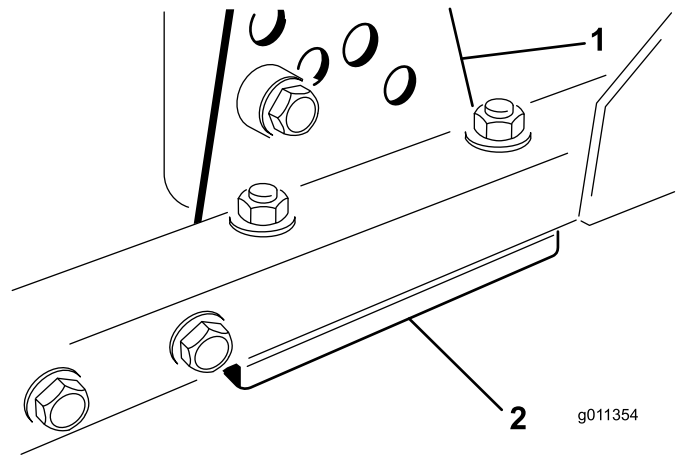

Figure 68
1. Remove the height-of-cut bracket, (front, left, or right) from the deck frame (Figure 68).
2. Adjust 1.5 mm (0.060 inch) shims and/or 0.7 mm (0.030 inch) shim between the deck frame and bracket to achieve the desired height setting (Figure 68).